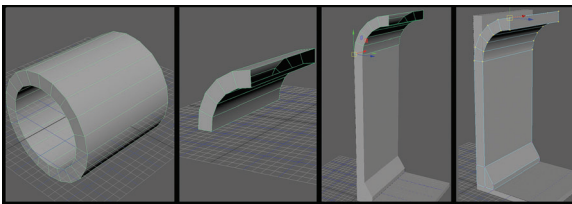

FIGURE 1.52 Creating the arched top of the wall by combining a pipe segment.
Step 5: Arch wall. Follow the steps of Figure 1.52. Create a pipe (Create->Polygon Primitive->Pipe). Under the Input section of the Channel Box, click on polyPipe1 and set the Radius to 128, Height to 512, and Thickness to 32. Set the Rotate Z of the model to -90. Delete the frontal and bottom